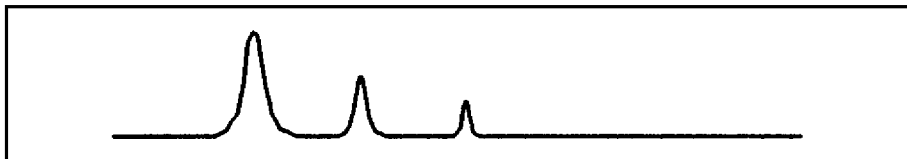

Figure 1-1. Fluorescence Detection With PMTGAIN=7
1. Press (λ Ex) (0) (Enter) to illuminate flow cell with full spectrum of light from xenon lamp.
2. Press (λ Em) (0) (Enter) to measure light intensity at all wavelengths.
3. Press (Pmtgain) (7) (Enter) to set signal amplification to an intermediate value.
4. If you have not already done so, press (Lamp) (1) (Enter) to turn on the xenon lamp.
5. Start your liquid chromatograph and recording device. The chromatogram will be similar to Figure 1-1.